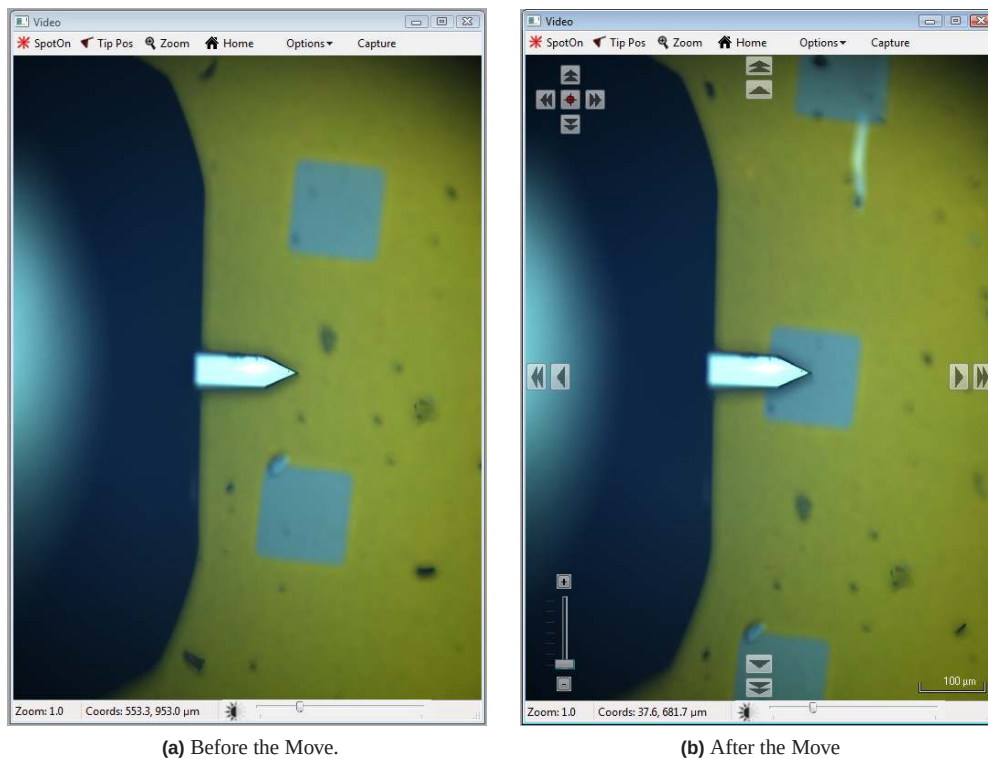

Figure 7.5.: Moving a Sample After a Scan
- For features that are further away, use the arrows toward the edges of the Video Panel. The single arrows are slow, and the double arrows are fast. It is also possible to click and hold the double arrows for faster, continuous movement. See Figure 7.5 on page 66 for an example of sample movement.